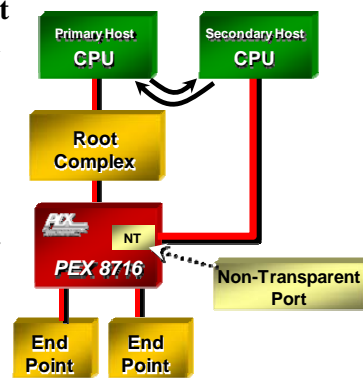

Figure 3. Non-Transparent Port
In Single-Host mode, the PEX 8716 supports a **Non-Transparent (NT) Port**, which enables the implementation of **dual-host systems** for redundancy and host failover capability. The NT port allows systems to isolate host memory domains by presenting the processor subsystem as an endpoint rather than another memory system. Base address registers are used to translate addresses; doorbell registers are used to send interrupts between the address domains; and scratchpad registers (accessible by both CPUs) allow inter-processor communication (see Figure 3).